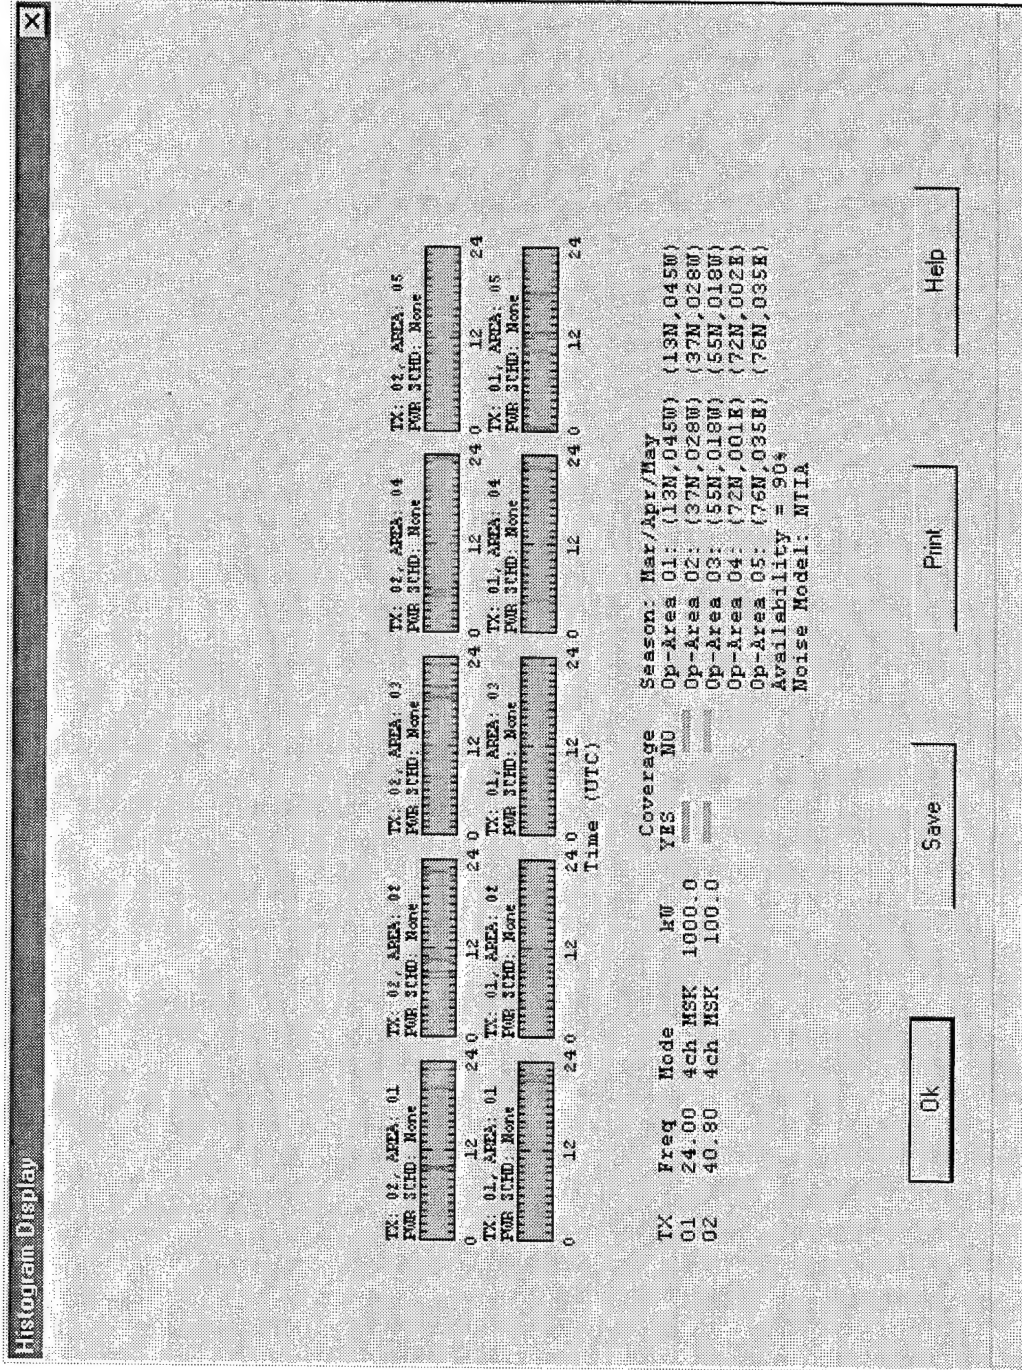

Figure 19. Example of a time availability plot.
- A time availability plot that illustrates copy/no copy periods for the selected transmitter operating area pairs. To perform a Time Availability plot, select Run Scenario -> Show Time Availabil-ity.... Figure 19 is an example of the resulting hard copy.